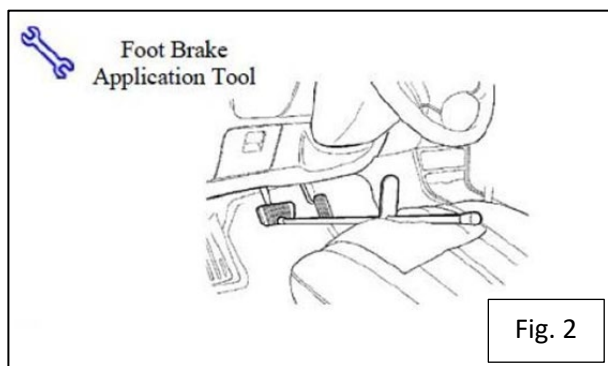

Fig. 2
3. Add seat protection (blanket) and apply foot brake using brake application tool. Figure 2.